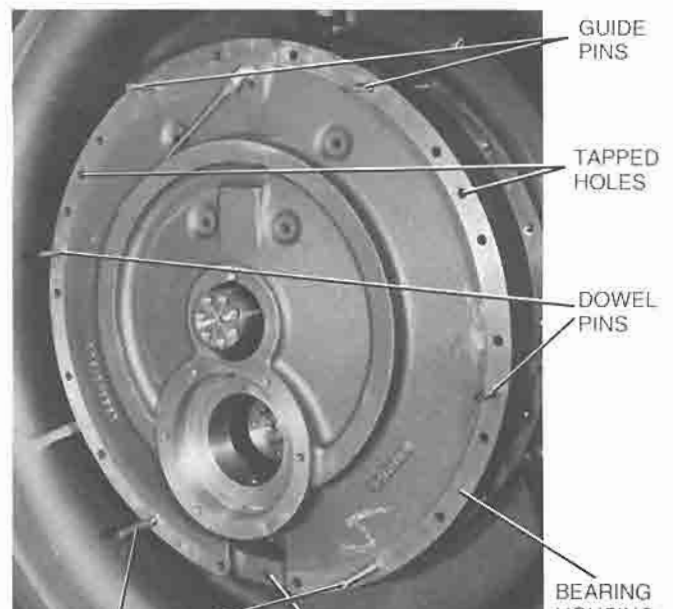

FIG. 23 - REMOVING BEARING HOUSING
1. Remove (4) of the cap screws that hold the bearing housing to the rotor support and insert (4) 3/8" guide pins as shown in Fig. 23. Also insert (3) 3/8" eye-bolts in the tapped holes.
2. Insert guide pins apart into the rotor support. (See Fig. 23)